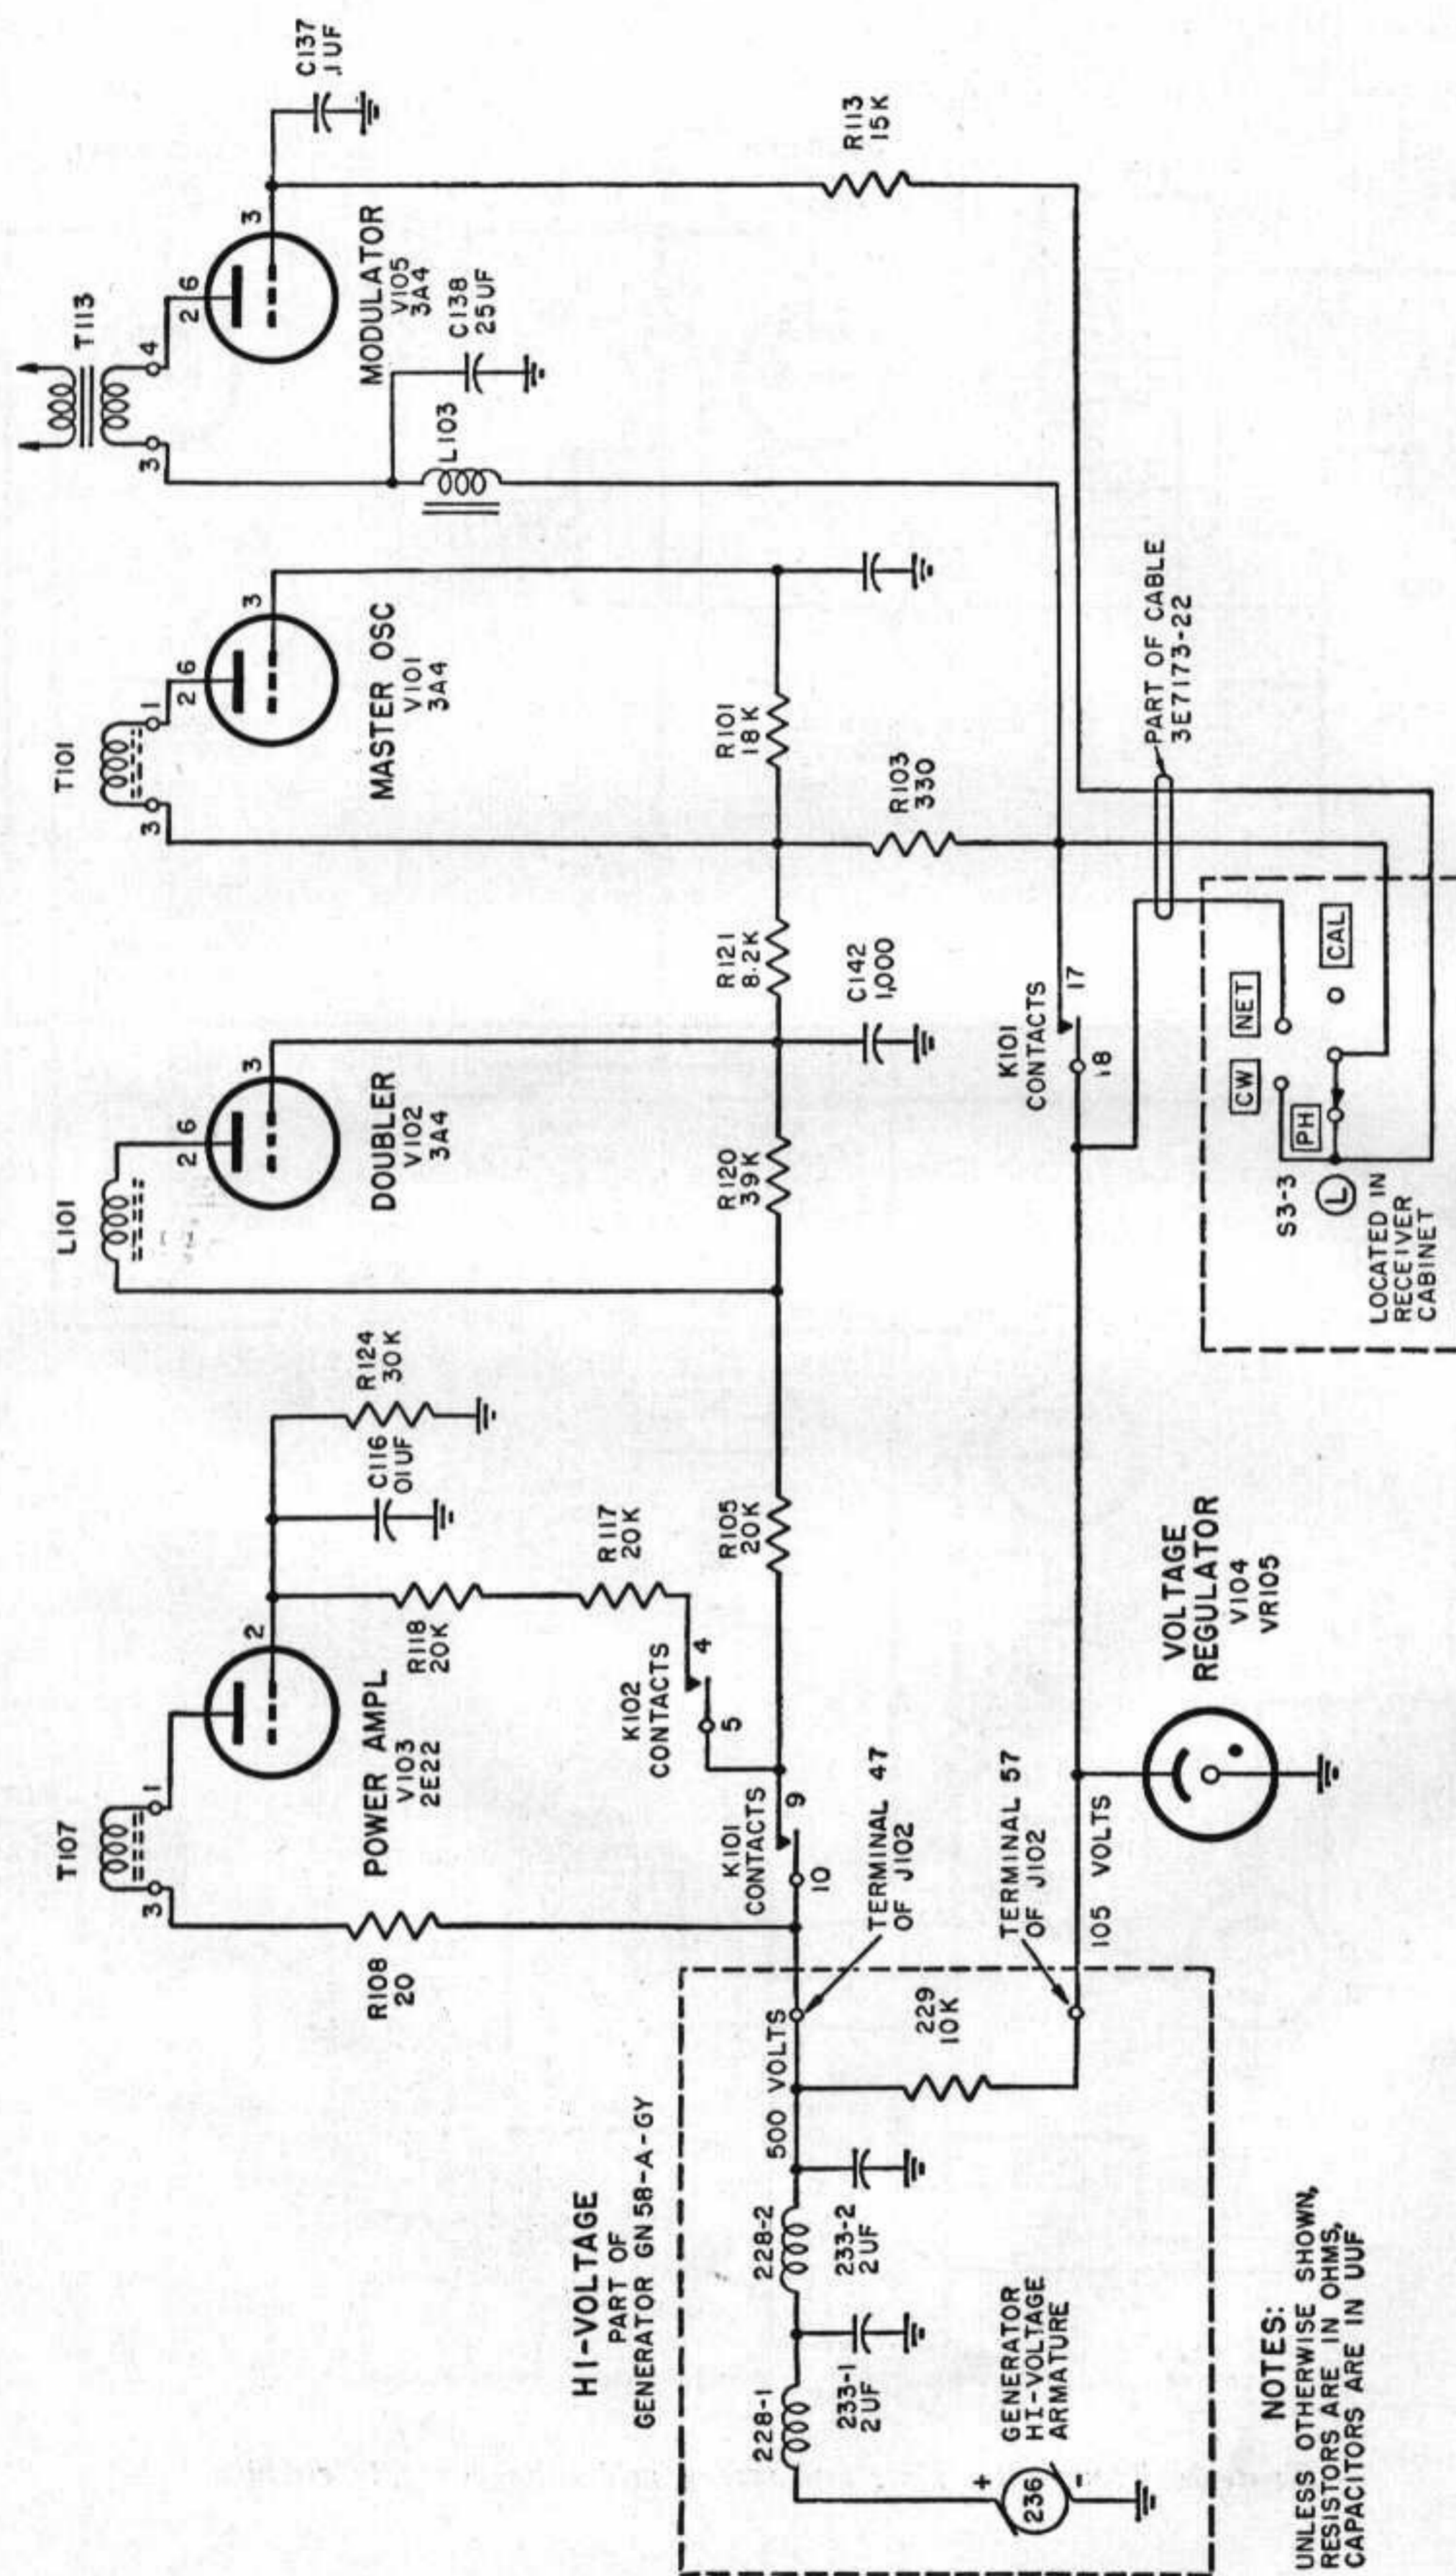

Figure 82. Transmitter plate and screen grid voltage supply circuits, simplified schematic.
c. GENERATOR POWER SUPPLY. The 105-volt output of the generator enters the transmitter through terminal 57 of J102 and is fed to the SEND tap on switch S103D, control E. When control E is placed on SEND, the voltage is fed to pins 3 and 5 of V104 (voltage regulator tube) and reaches the contacts of keying relay K101, through the internal connection between pins 3 and 7 of V104. When contacts 17 and 18 and contacts 9 and 10 of relay K101 are open, none of the plates or screens of the tubes receive voltage, except the plate of V103 (fig. 82). If the key or press-to-talk switch on the microphone is depressed, these contacts close; all tubes receive voltage and the transmitter is in operation.
d. OVERLOAD RELAY. Contacts 5 and 4 of overload relay K102 are in series with the dropping resistors to the screen grid of the power amplifier tube V103 (fig. 82). These contacts normally are closed. Should the signal voltage on the control grid of V103 fail, the tube would no longer be negatively biased, and a very large plate current would result, which could ruin the tube. In order to avoid this possibility, a relay coil is placed in series with the signal grid and the contacts of the coil are placed in series with the screen grid. These are contacts 5 and 4. Therefore, if the signal fails, no current is drawn and the relay coil is deenergized; the contacts open, thus removing screen grid voltage from V103 and reducing the plate current to almost zero.
button is not depressed, relay K101 contacts 17 and 18 will not be closed and the transmitter tubes will not receive plate and screen voltages. To overcome this, only oscillator tube V101 and doubler tube V102 are fed with enough operating plate and screen grid voltages. This is accomplished with switch S3-3, control L, which is located in the receiver cabinet and is connected to the transmitter by cable assembly 3E7173-22-GY. When switch S3-3 is turned to NET, it shorts out contacts 17 and 18 of relay K101 (fig. 82). This allows the combined plate and screen grid currents of the doubler and oscillator tubes to flow through resistor R103 and switch S3-3 to terminal 57 of receptacle J102, and from there, by Cord CD-1086-GY, to the generator. Switch S3-3 also disconnects the screen grid of the modulator tube V105 from the voltage source so that the tube is inoperative. This prevents sidetone from interfering with the zero beating in preparation for net operation.